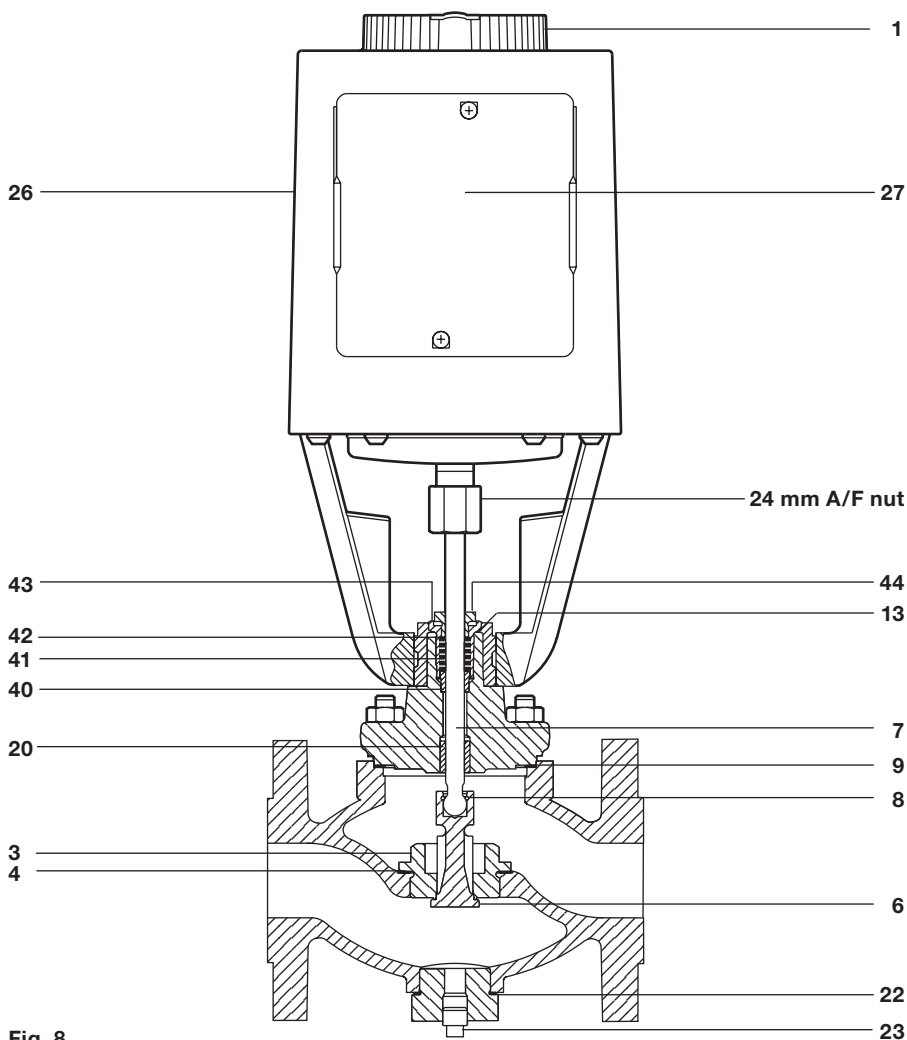

Fig. 8
- Unscrew the 24 mm A/F nut connecting the stem to the actuator cylinder (see Figure 8), remove and retain both the thrust washer and the 24 mm A/F nut.